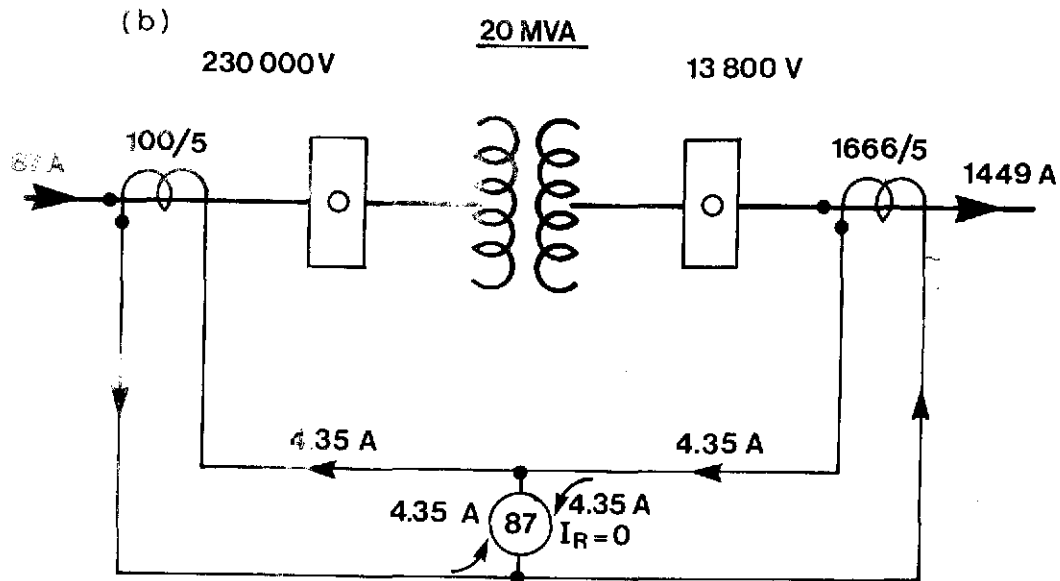

Figure 4: 20 MVA single phase transformer protected by a simple differential scheme.
- (b) Draw a diagram showing the transformer, current transformer and differential relay. (See Figure 4.)